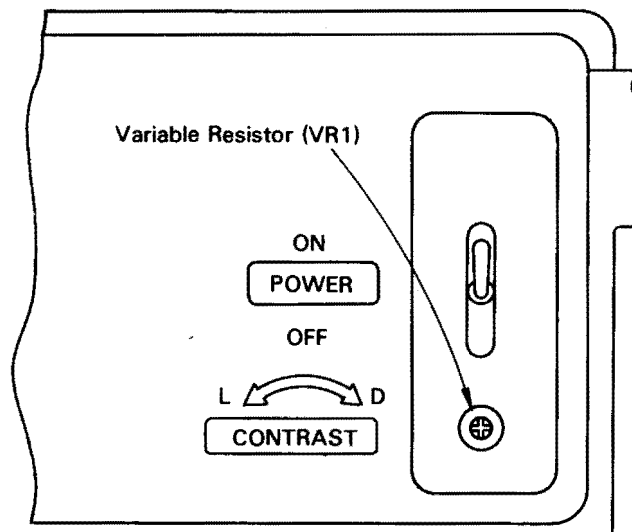

Figure 53.
- Open the cover to make contrast adjustments to the Variable Resistor (VR-1). (see Figure 53.)